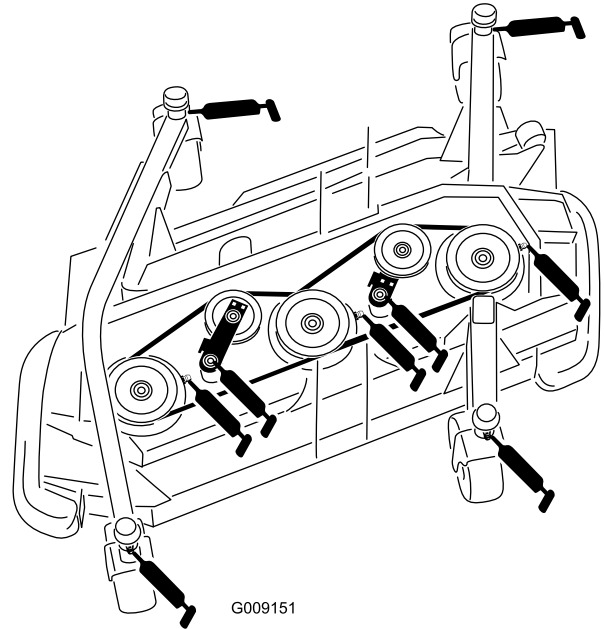

Figure 54
- 4 caster-fork-shaft bushings (Figure 54)
- 3 spindle-shaft bearings (located on the spindle housing) as shown in Figure 54
- 2 idler-arm-pivot bushings (located on the idler-pivot shaft) as shown in Figure 54